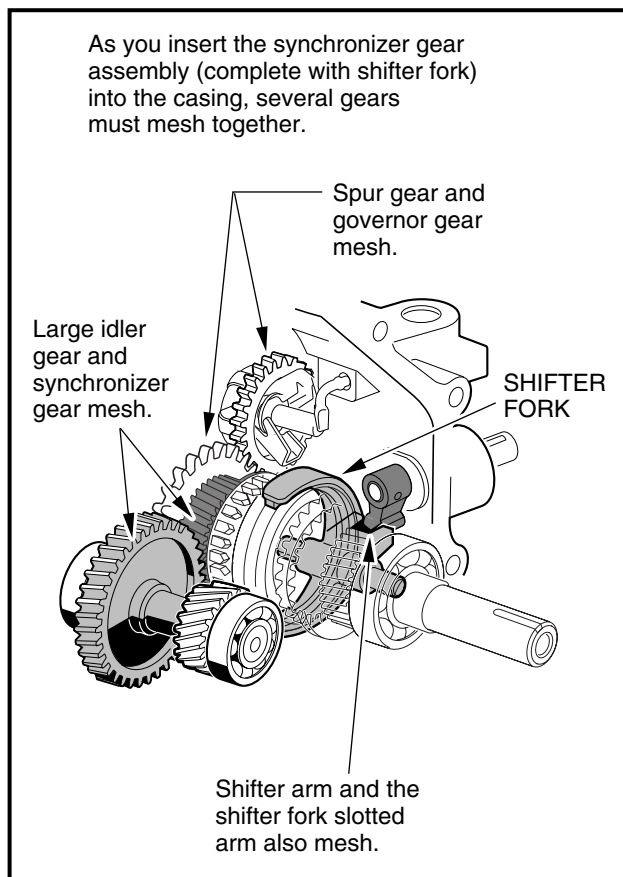

Figure 7-53 Gear Alignment
- 7.4. Position the shifter fork assembly on the synchronizer gear assembly and install them together, bearing end first, into the bore containing the oil guide (**Figure 7-52, Page 7-26**). Do not seat the assembly, but make sure the spur gear (43) is meshed with the governor gear (64) (**Figure 7-16, Page 7-9**), and the shifter lever (19) (**Figure 7-5, Page 7-4**) is positioned in the bracket on the shifter fork. **See also Figure 7-53, Page 7-27.**